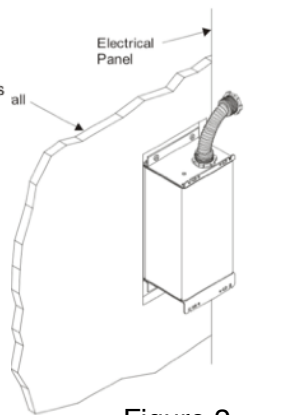

Figure 2
4. Align FCP with drywall opening, mark locations of drywall anchors (not included) and install anchors per manufacturer's instructions. Insert SPD into drywall cutout and connect flexible conduit to electrical panel (Fig 2).